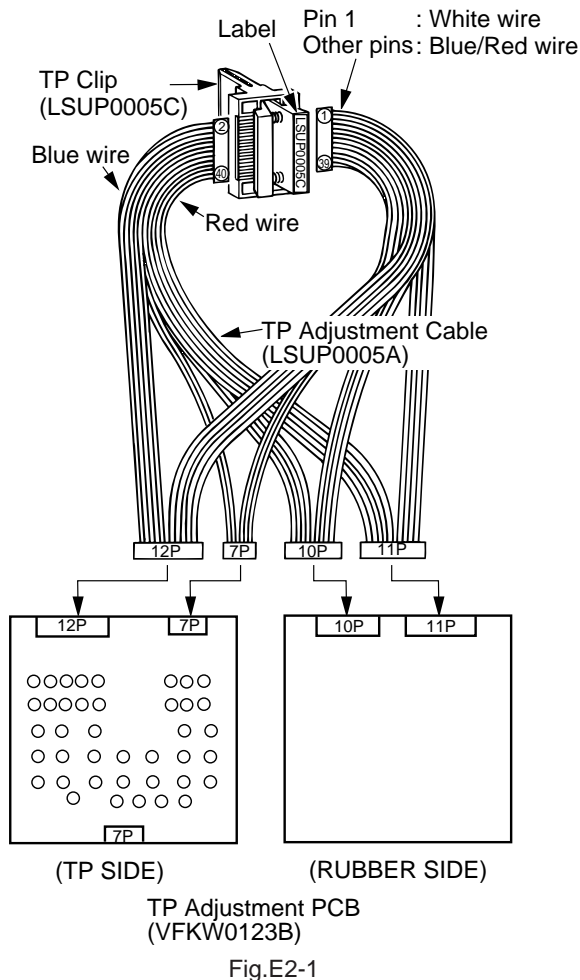

Fig.E2-1
1. Assemble the TP Board Kit as shown in Fig.E2-1.
When inserting the TP Adjustment Cable to the TP Clip, be sure to insert the cable with white wire (1pin) to the label side of the TP Clip as shown in Fig.E2-1.